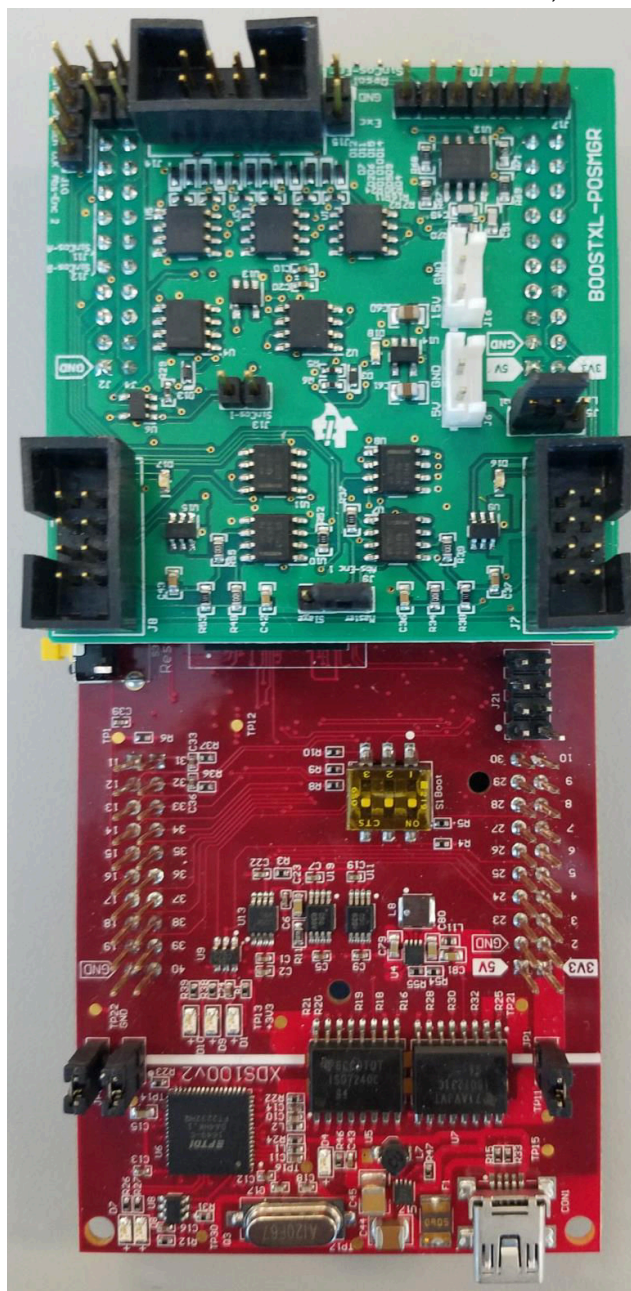

Figure 3-7. Position Manager BoosterPack Connected to Site Two of LaunchPad™
2. Connect the TIDM-1011 device to the LaunchPad using the BoosterPack connector (J1 to J3 and J4 to J2). Ensure the TIDM-1011 device is connected to site two of the LaunchPad, as shown in Figure 3-7.